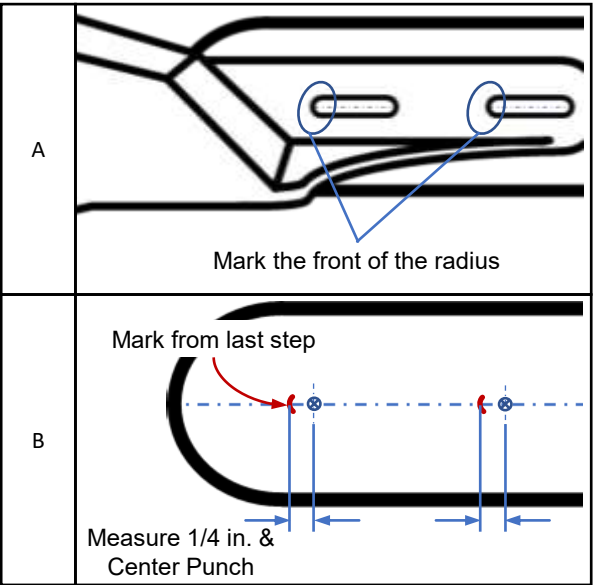

Fig. 3
- Use an awl or marker, mark the forward most radius of each slot onto the bar, as circled in Fig. 3 - A.
- Remove the attachment then measure 1/4 in. away from the marks made in the last step and mark. Use a center punch to mark where to drill as shown in Fig. 3 –B.